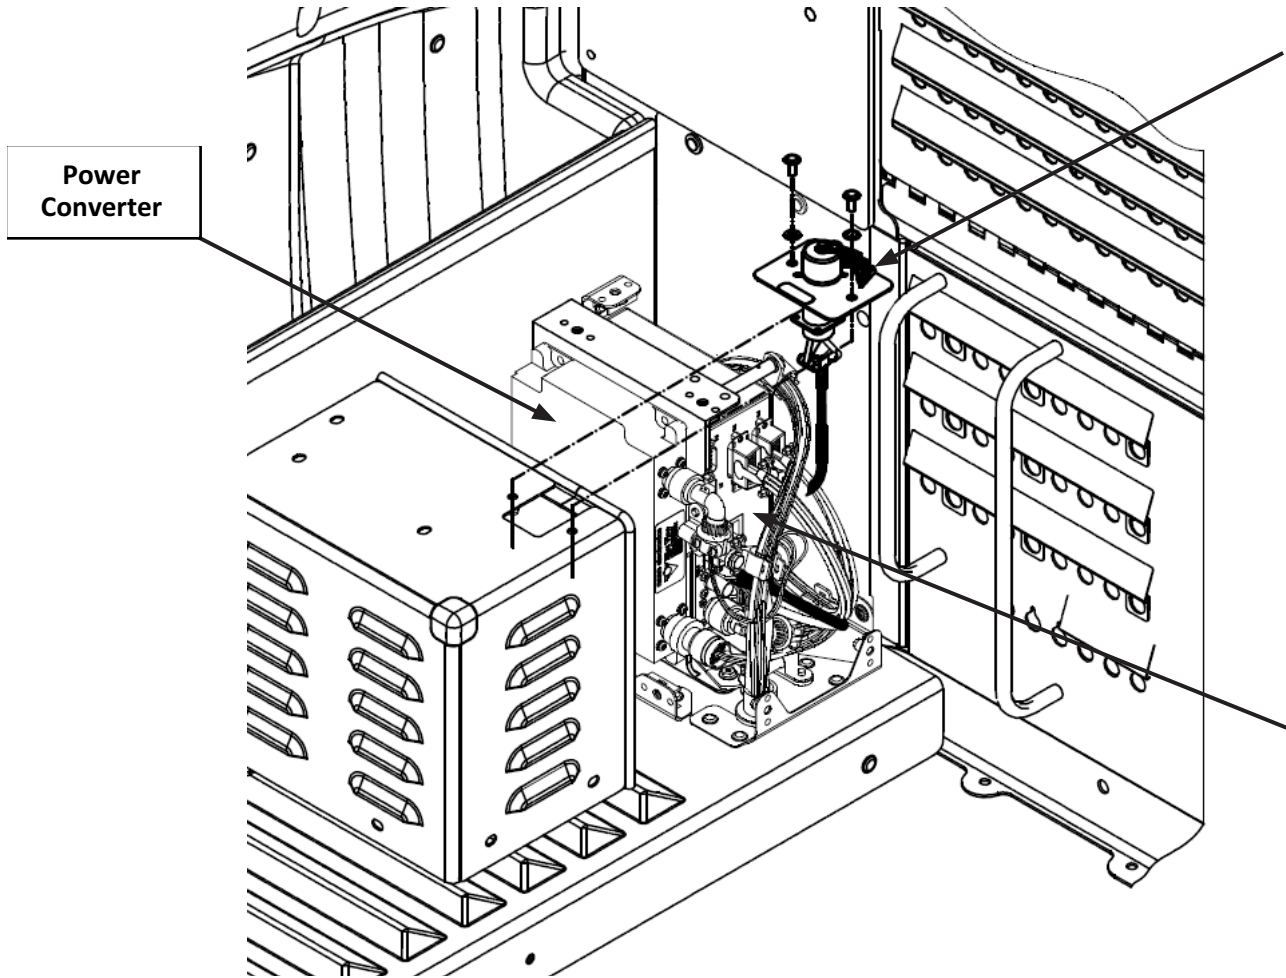

FIGURE 3: LRU INSTALLATION
- » The ESMUs for the EFB systems will be installed onto Boeing mounting provisions in the left and right flight bag stowage areas (Figure 3).
- » The power converter will be installed in the left and right side consoles adjacent to each ESMU in the mounting provisions (Figure 3).